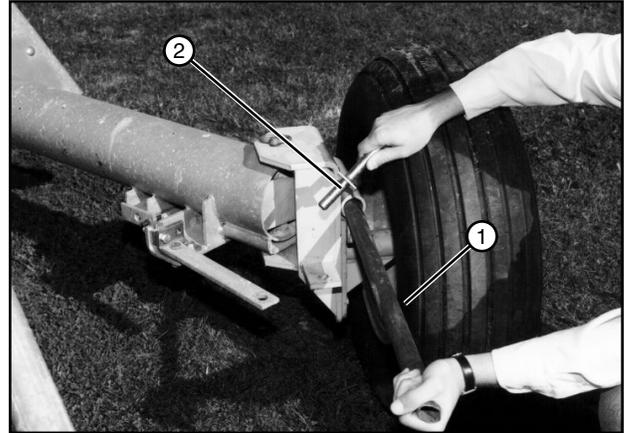

Figure 49-1 1. Bar
11. Remove hardware securing wheel in the tow position. See figure 49-1.
12. Insert a bar in the swivel tube and turn the wheel to the pivot swivel position. See figure 49-1.